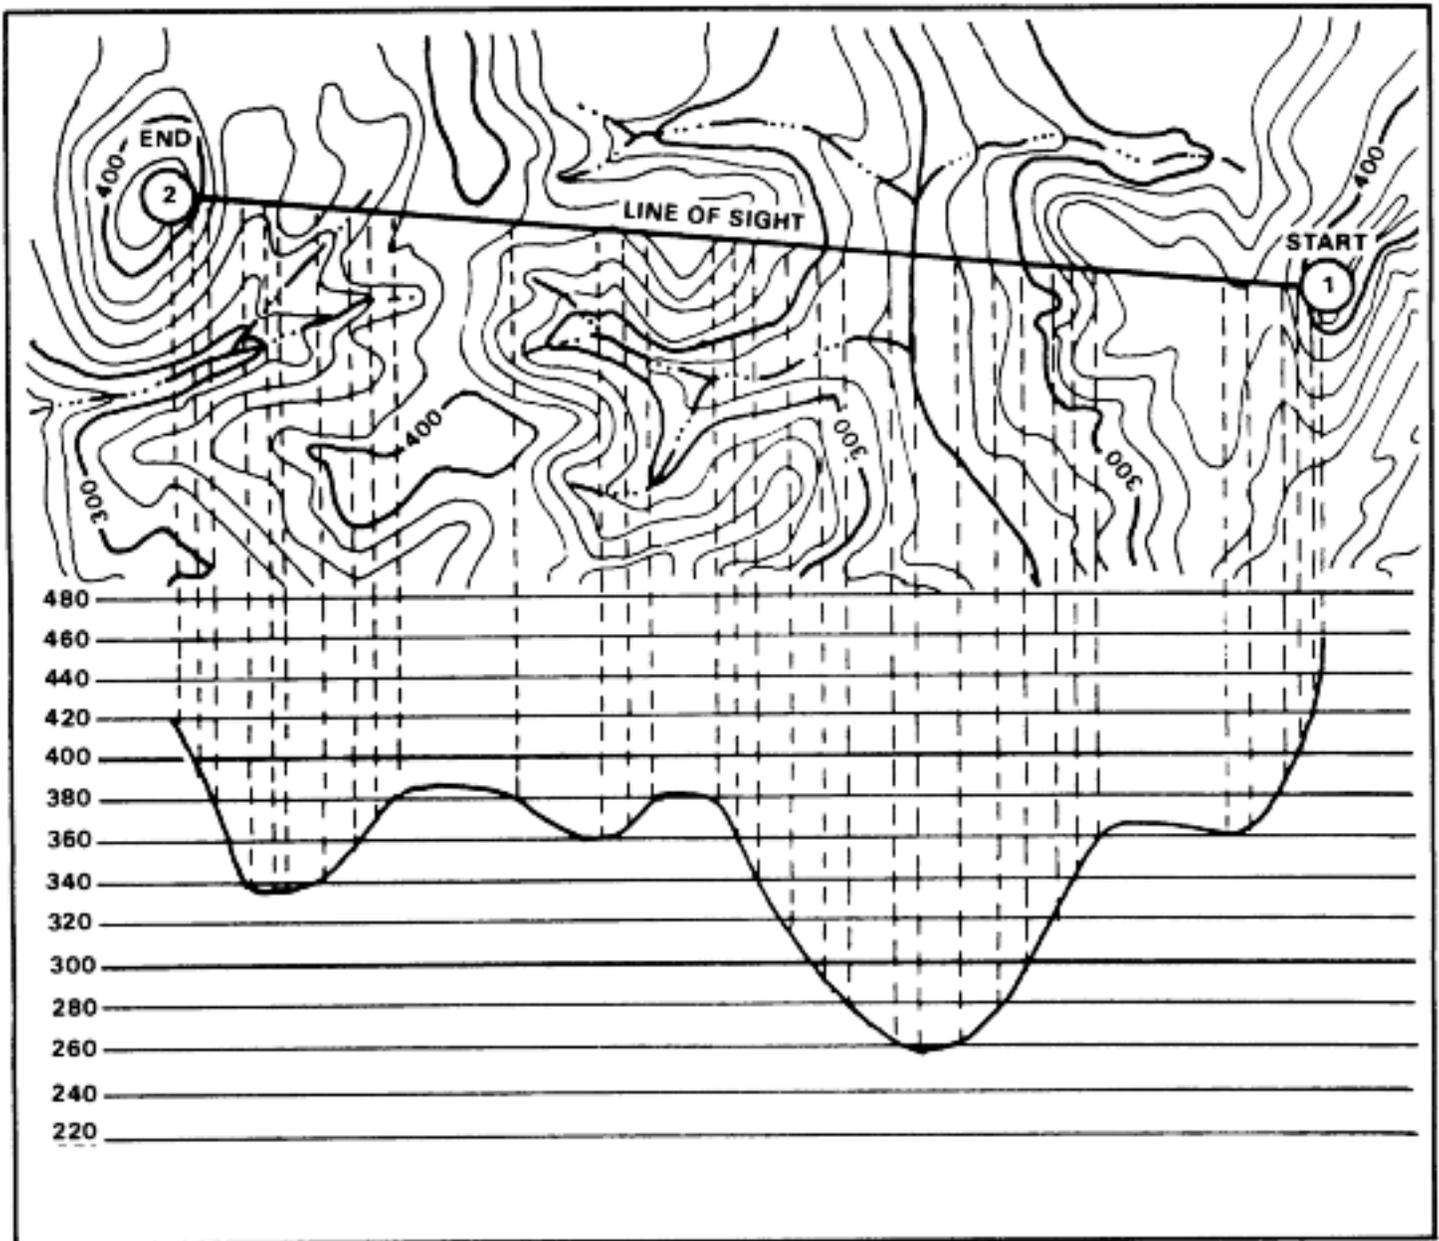

Figure 6-28. Marking of elevation.
(1) Place the edge of a lined piece of paper along the profile line. Tick-mark all points of known elevation on the edge of the paper. These points are the contour lines. Any paper with evenly spaced horizontal lines, such as graph or notebook paper, may be used. The wider the spacing of the lines, the greater the vertical exaggeration in the profile; however this does not affect the information.
(2) Draw perpendiculars down across the horizontal lines for each marked point, and identify the high and low points along the profile (Figure 6-28).